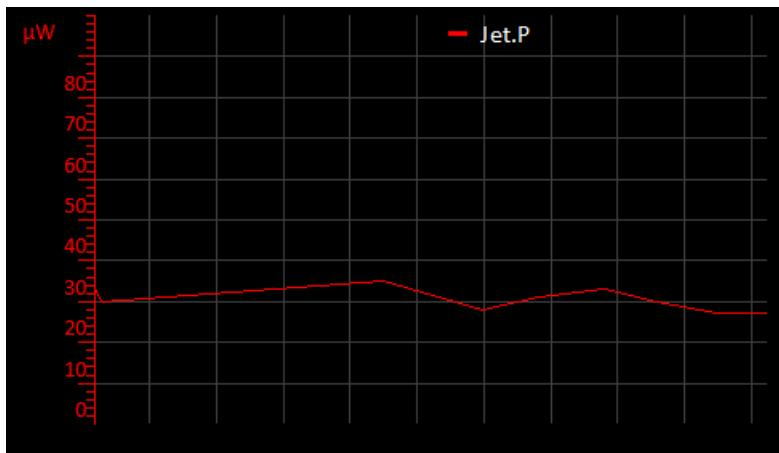
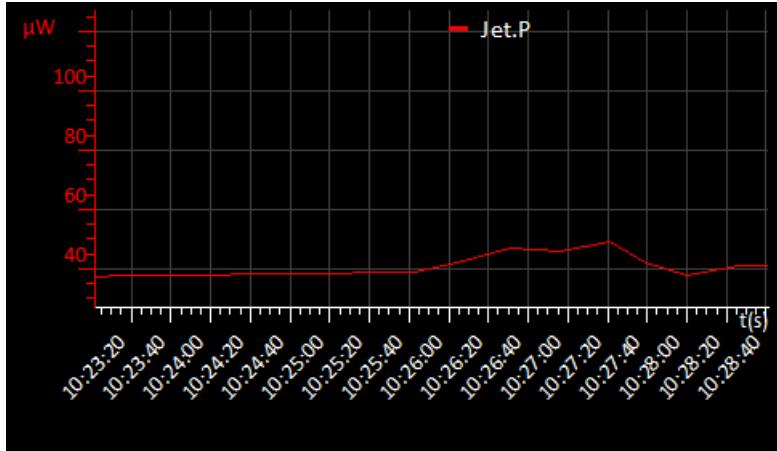

Figure 6-1 Signal Monitor Plot page with Y axis scale only
Figure 6-2 Signal Monitor Plot page with X and Y axis scales
- 6 By default, the Plot page displays a scale on the Y-axis only (see Figure 6-1). To remove the X axis scale, tap once on the bottom of the X axis (see Figure 6-2).